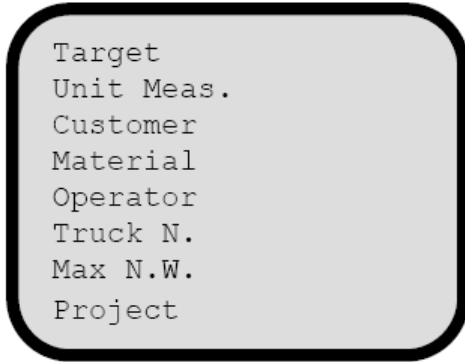

Figure 4-5. Selection Screen
The display appears as in Figure 4-5.
The display appears as in Figure 4-5
1. From the *Selection* screen (see Figure 4-5), press the Up or Down (+) buttons to scroll to the *Material* line.